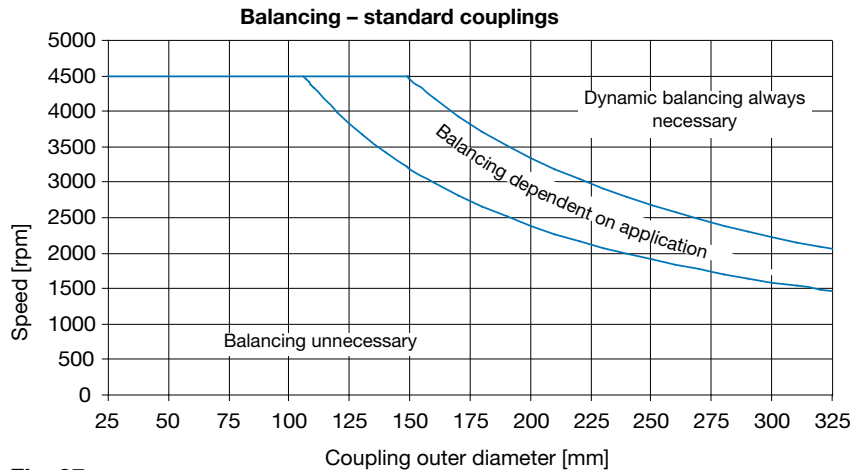

Fig. 97
- Coupling circumferential speed (Fig. 97)
Figs. 97 or 98 only show reference values as recommendations for balancing.